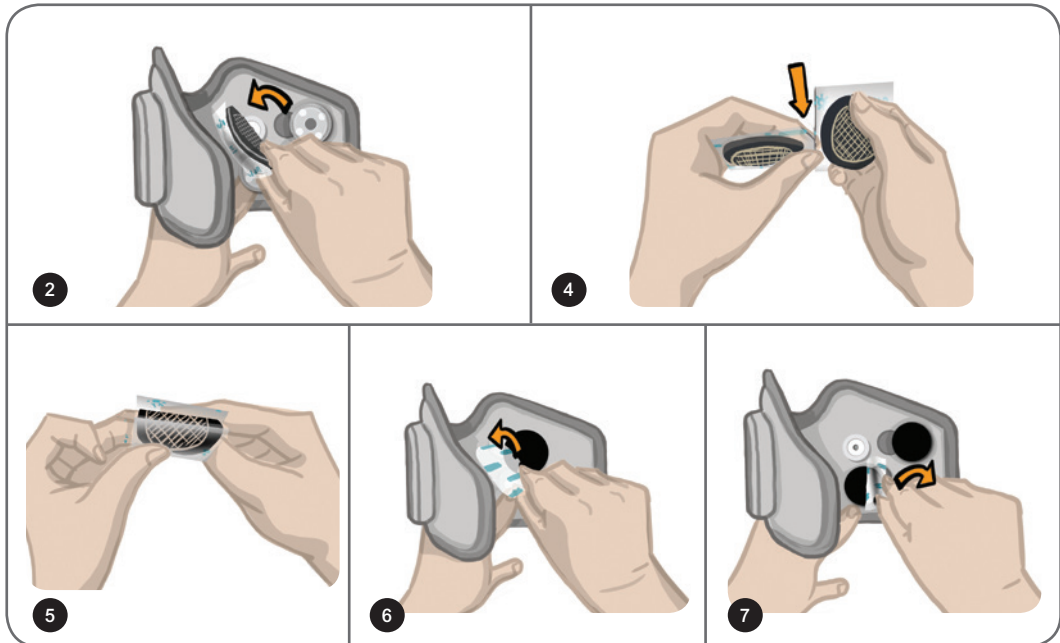

Figure 8-6: Replacing the Hydrogel Electrodes
**⚠ To replace the Hydrogel Electrodes: (See Figure 8-6)**